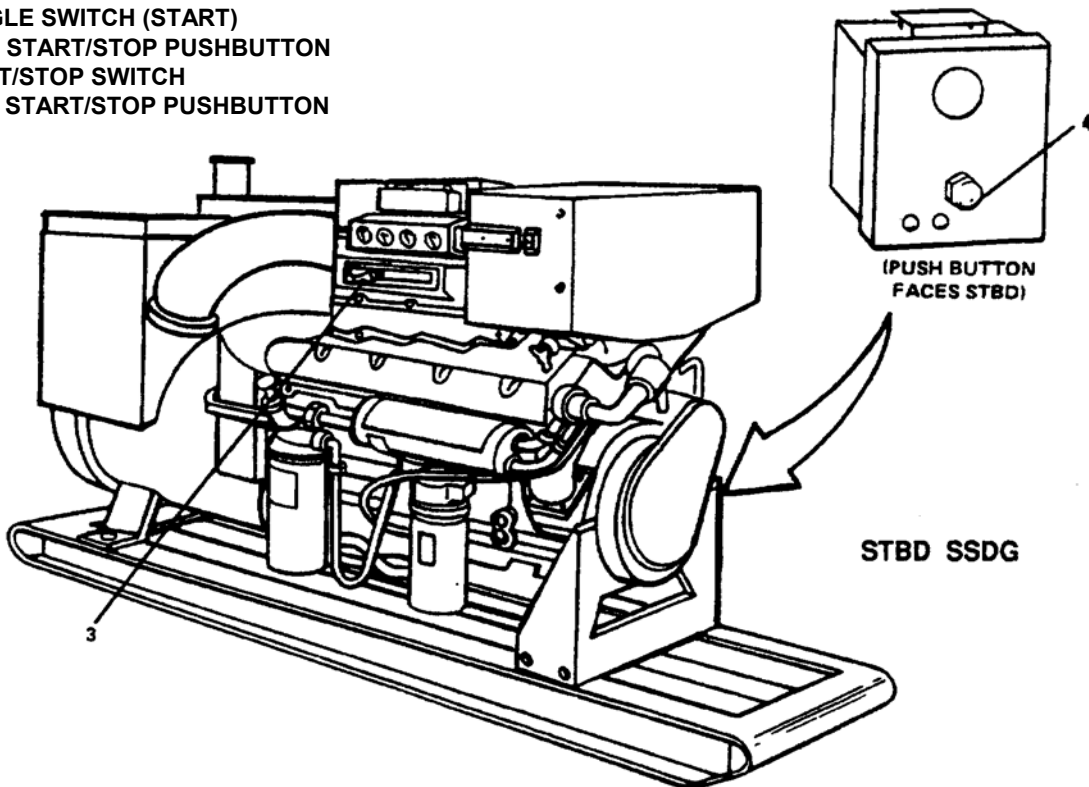

Figure 2-397. SSDG Engine Controls.
d. Shutdown SSDG Engine (Figure 2-397).
(1) Cool down engine. Allow engine to idle for at least 17 minutes to allow cooling water to remove excess heat.